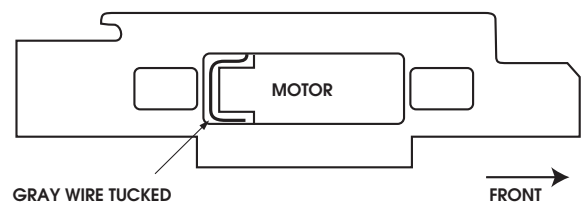

Fig. 4
■ Your decoder and motor are now ready to be installed into the Track Master frame. With the right mainframe laid out in front of you (front to your left) install the motor with the GRAY wire on the bottom. Guide the GRAY wire around the the motor as per Fig. 4. Inspect brush holders and wires to be sure they are not touching anything.